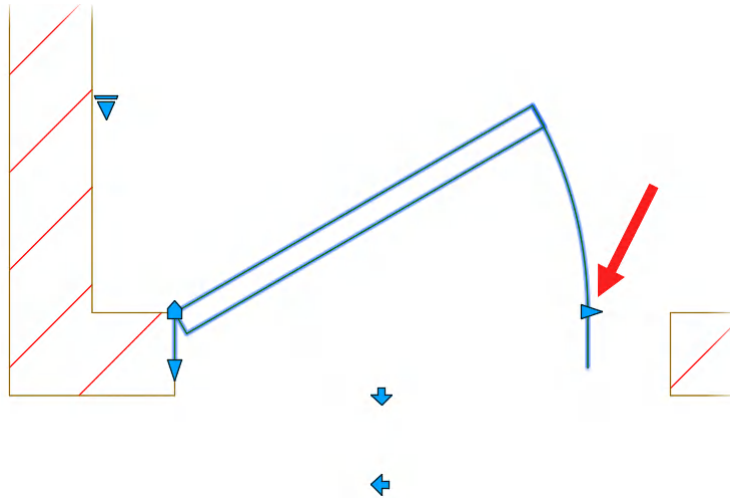
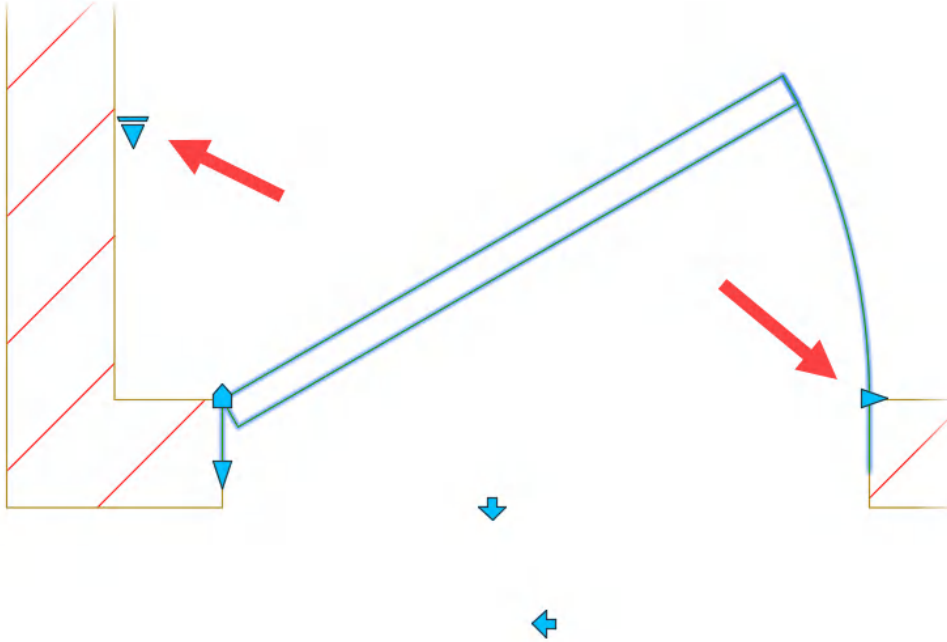
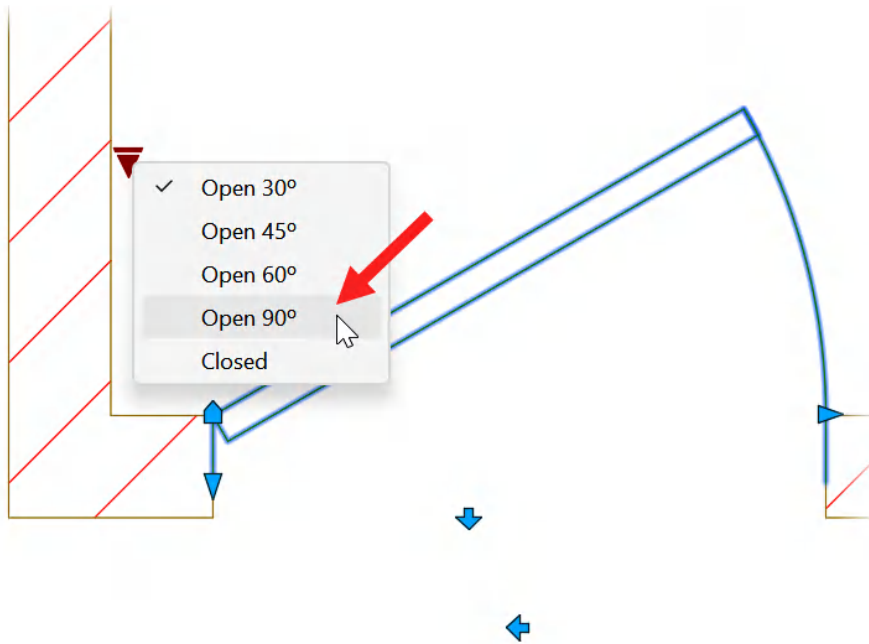

Figure 9.13: The dynamic block selected, with parameter grips displayed
Figure 9.14: The dynamic block resized with the parameter grip
Figure 9.15: The door swing menu displayed for the dynamic block
6. You will note that the dynamic door block does not fully close the door opening in the wall. This is where the *dynamic* in dynamic block kicks in. Select the block in the drawing, as shown in *Figure 9.13*. You will see numerous blue grips appear. These are all the dynamic block's built-in parameters, making it a highly versatile AutoCAD object.
7. Select the rightmost parameter grip (arrowed in *Figure 9.13*) and drag it towards the right-hand corner of the door opening. You will see the door block resize accordingly, and you can then click on the **Endpoint** object snap of the door opening to finish resizing the dynamic block, as shown in *Figure 9.14*.
8. With the block still selected, click on the larger, triangular parameter grip to the left, as also shown in *Figure 9.14*. You will see a menu displayed that provides options for the door swing angle, as shown in *Figure 9.15*.